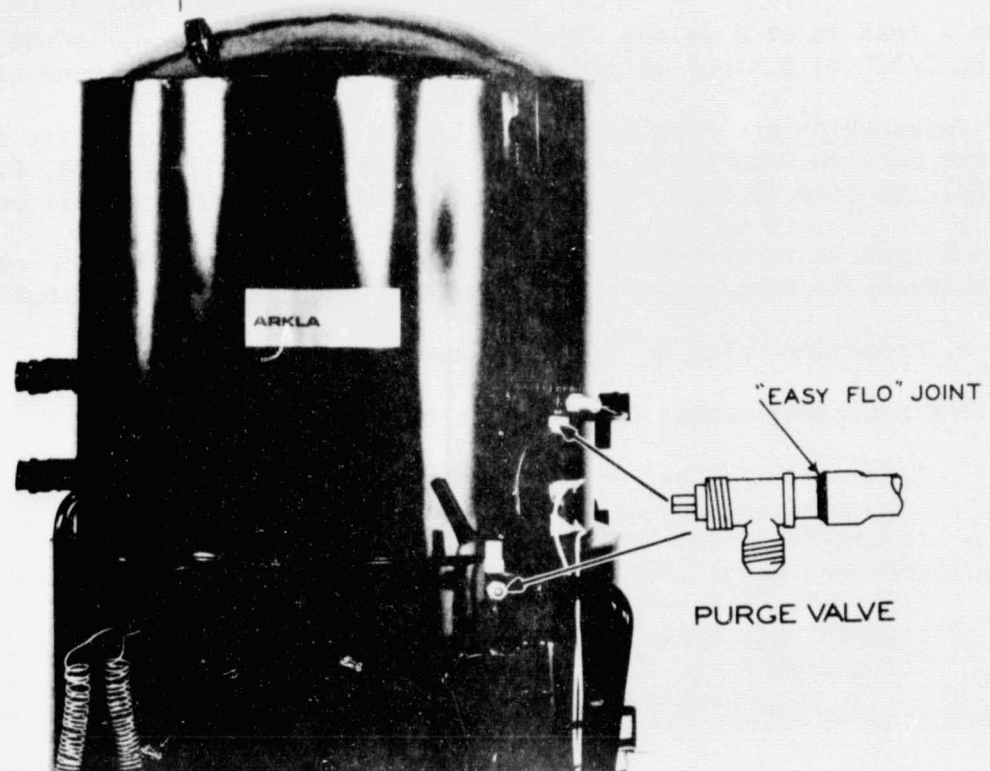

FIGURE 2
2. Easy Flo joint at base of absorber purge valve (see figure 2).
3. Easy Flo joint at base of purge receiver tank valve (see figure 2).